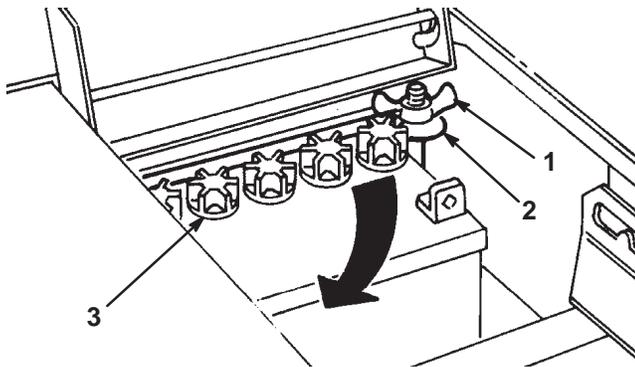

Figure 21
3. Disconnect the negative (black) ground cable from the battery post (Fig. 21).
4. Lift the rubber cover up on the positive (red) cable. Disconnect the positive (red) cable from the battery post (Fig. 21).
5. Remove the wing nut securing the battery hold downs to the rider chassis (Fig. 21).